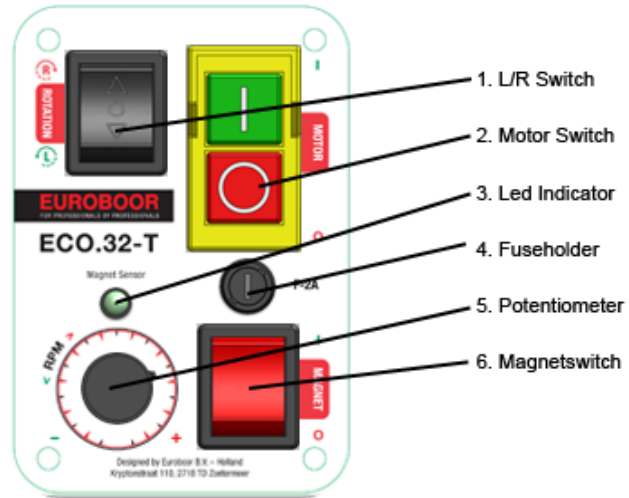

Fig. 2
Connect the machine to the mains/work piece. To activate the magnet, press the red button (Fig. 2 – 6). The switch will be lit (red). The LED indicator (Fig. 2 - 3) will be lit GREEN if generated magnetic force is sufficient. When LED indicator turns RED there is not enough magnetic force and it is not safe to work. To deactivate the magnet, press the same button (Fig. 2 - 6) again.
The motor unit can only be switched ON when the magnet is activated. To turn the motor ON, by pressing the green button with marking “I”(Fig. 2 - 2). To switch the motor OFF, press the red button with marking “O”(Fig. 2 - 2).
- Switch off the machine (Fig. 2 - 2) and change the cutter for the tap collet and the machine tap;
- Switch on (Fig. 2 - 2) the machine and set the machine tap onto the drilled hole;
- Switch off (Fig. 2 - 2) the machine and set the direction of rotation to anti-clockwise (left = L) at switch (Fig. 2 - 1).
- Switch on the machine (Fig. 2 - 2) again and allow the machine tap to come completely out of the work piece. Then guide the machine slide upwards at handle to avoid damaging the start of the thread.